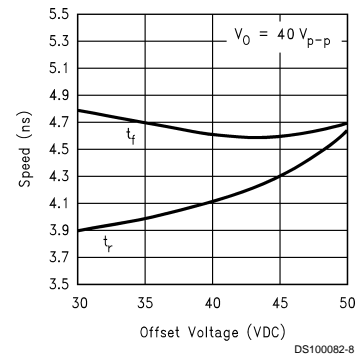

FIGURE 7. Speed vs Offset
*Figure 7* shows the variation in rise and fall times when the output offset of the device is varied from 30 VDC to 50 VDC. The rise time shows about twice as much variation as the fall time, however the maximum variation relative to the center data point (40 VDC) is less than 10%.